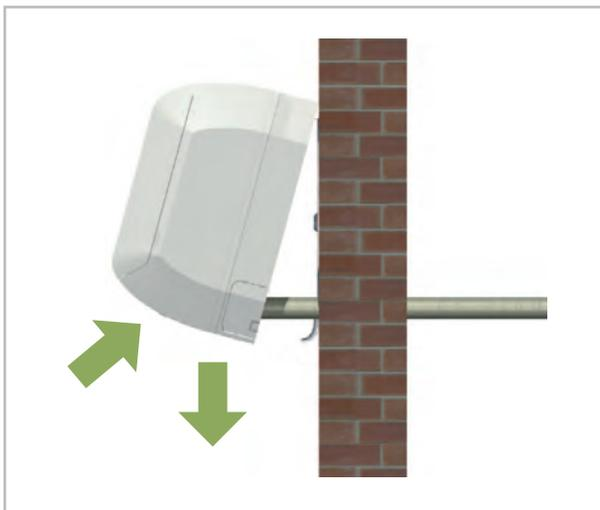

Fig. 32: Horizontal positioning
5. ▶ Check again that the unit is level. (Fig. 32)